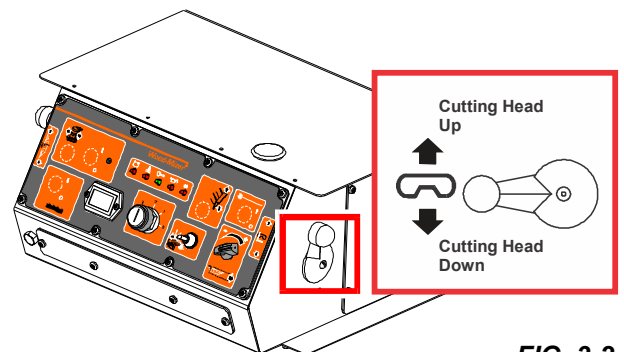

FIG. 3-2
6. Use the up/down switch on the control panel to raise the cutting head from the carriage rest pin. **See Fig. 3-2.**
5. Use the up/down switch on the control panel to raise the cutting head from the carriage rest pin. **See Fig. 3-2.**